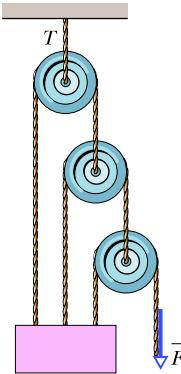

Figure 12.56 Problem 61.
**61** The force  $\vec{F}$  in Fig. 12.56 keeps the  $6.40\text{ kg}$  block and the pulleys in equilibrium. The pulleys have negligible mass and friction. Calculate the tension  $T$  in the upper cable. (Hint: When a cable wraps halfway around a pulley as here, the magnitude of its net force on the pulley is twice the tension in the cable.)